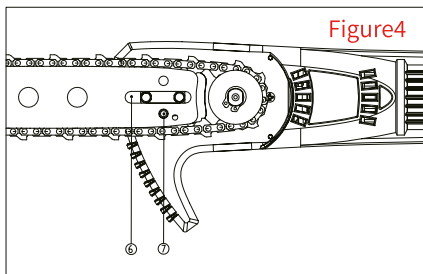

Figure4
- (5) In Figure 4, insert the bar (7) into the tensioning lock hole and position it on the main body of the pruner;
- (5) Figure 4, Remove the bar and chain (4);
- (5) Figure 4, align the oil bottle nozzle on the chain to lubricate it (5), make a one-time filling of 3~6 ml of lubricating oil (it is recommended to fill once when cutting about 10~15 pieces continuously in use).